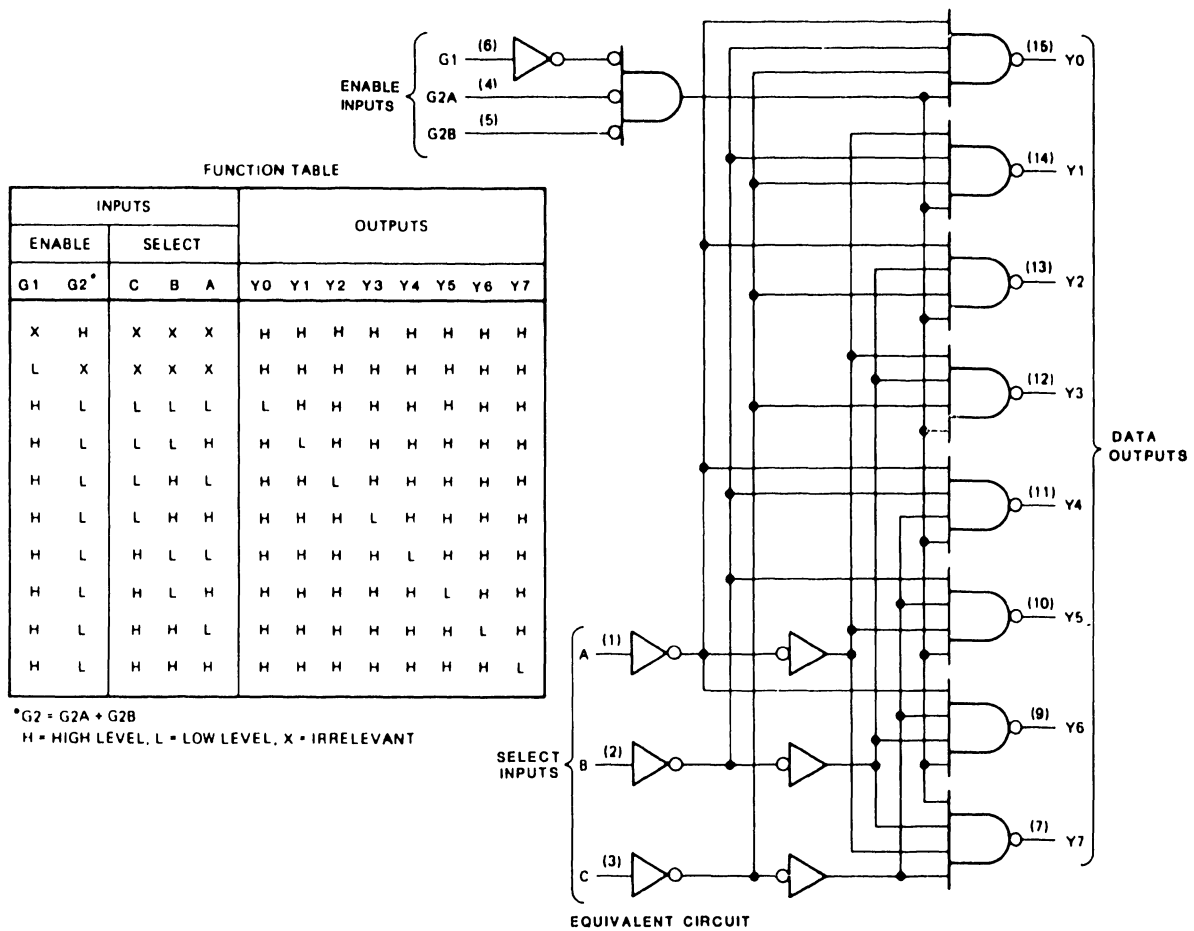

Figure 2-15. Interface Device Enable Decoder (74LS138)
A function table and loading diagram are provided in **figure 2-15** to help understand the operation of the decoder. **Table 2-6** lists the output signals of U29 and their functions.
(2) Control Group 3 - Signal ECG3\* enables one (1) output from either U28 (SH 7) on the Interface CCA or U45 (SH 36) on the Timing and Status CCA. Each active output is in a low logical state. Table 2-8 lists the Address Bus line signals, the functions, and the output signal conditions which are controlled by Control Group 3. See figure 2-15 for a function table and loading diagram for the U28 and U45 decoders' operation.